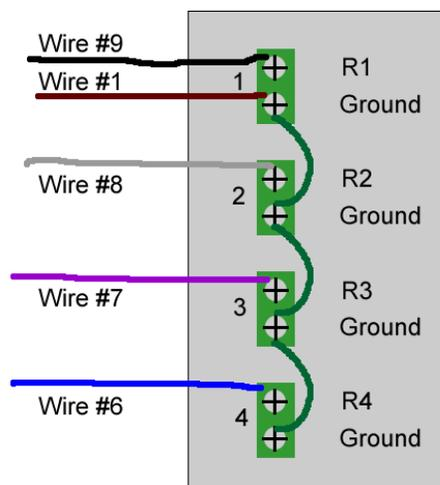

Fig 2. Wire connections for multi-position MX Series II Modules. Wire colors may vary.
- Using the provided jumper wires, jumper the ground terminals of event relays 2 (R2), 3 (R3), and 4 (R4), as shown in figure 2.
(3) Connect the wires of the interface cable to the instrument with 4-line BCD control as shown in figure 2.